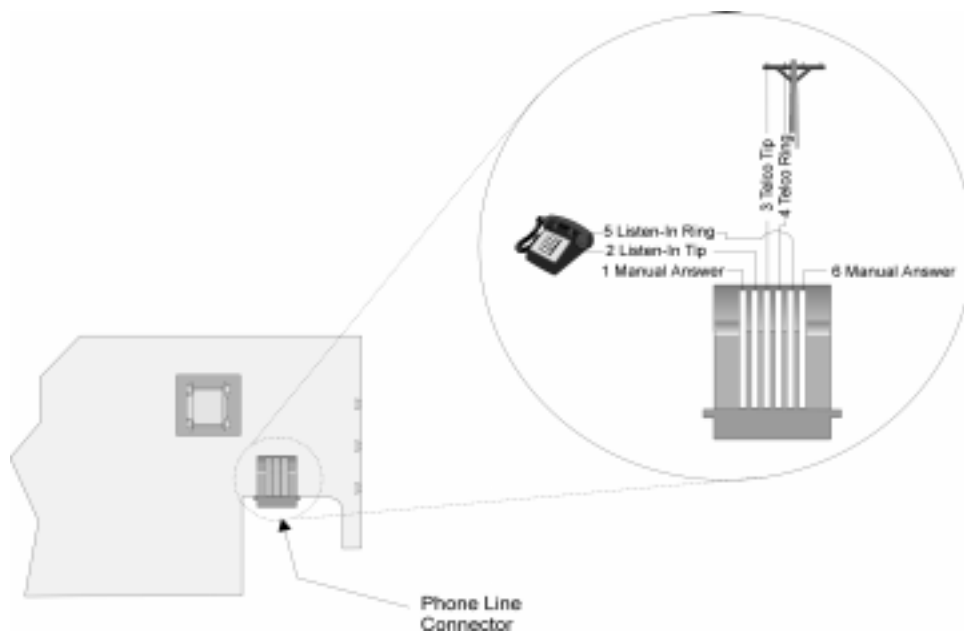

Figure 4-26 Phone Connector Pin-Out and Listen-in Wiring Diagram
3. Pick up the telephone the listen-in call is on. See Figure 4-26 for a diagram of how the listen-in phone should be connected (in parallel) with the phone line of the line card.